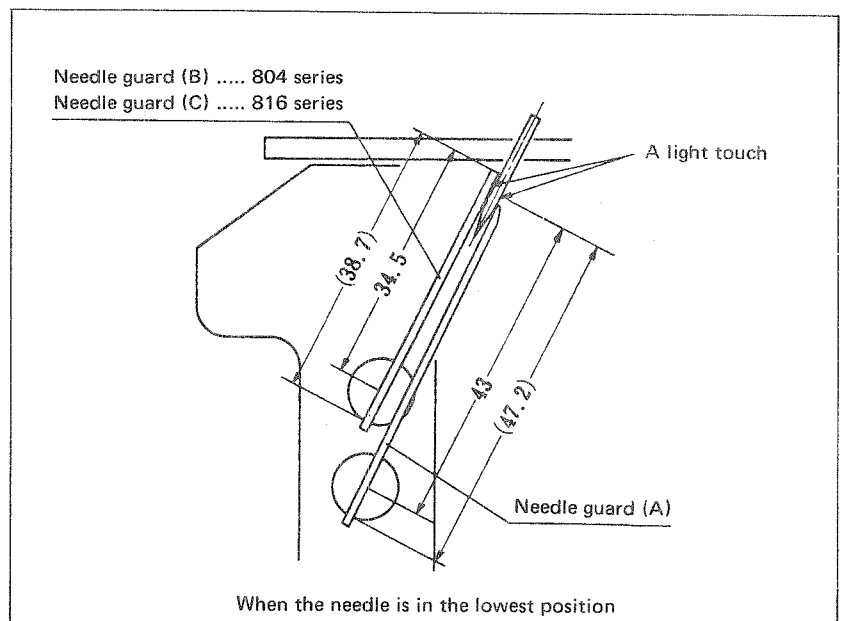

Fig. 21
(1) Needle guard for overedging machine (Fig. 21)
- a) Needle guard (A) height 43 mm (1-11/16")
- b) Needle guard (B) (804 series)